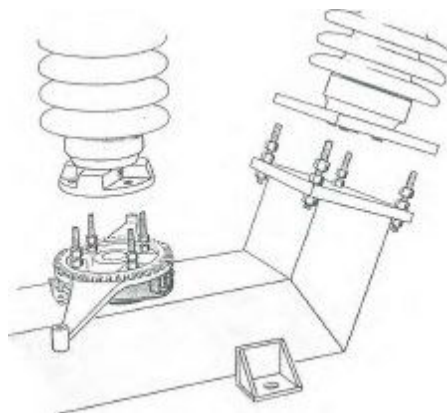

Figure 2: Insulator Mounting
| Figure 2: Insulator Mounting | 6 |
- 1.3. Before disassembling the live parts from the switch base you must match mark the insulator bearing hub, switch arm, and rotating base to ensure correct reassembly (**See Figure 2**). Match-mark A to B and B to C. Failure to complete this step will make final adjustment more difficult.
- 1.5. Refer to the Unit Assembly and Field Assembly (SF) Drawings for bolt sizes. Mount the center stack rotating insulator first, using the bolts specified in the field assembly bolt list. The easiest way to mount the insulators on these switches is to remove the top nuts from the jack screws that support the mounting adaptors, remove the mounting adaptors from the base, and bolt them directly to the bottom of the insulator stack. Then the entire stack can be lifted to the base and slipped down on the jack screw studs. (see **Figure 2**).